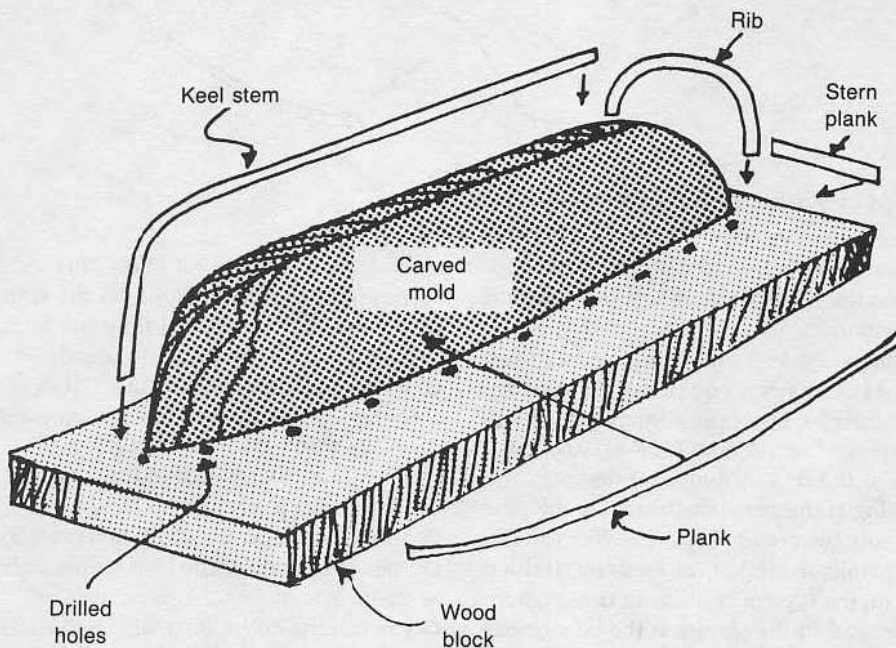

Fig. 11-21. Building a ship's boat over a form (Courtesy of Northshore Deadeyes, Ltd.).
To begin construction, see the overall details in FIG. 11-21. FIGURE 11-22 shows the placement and identification of the parts that are referenced in the instructions.
- ✱ Mount the form in an inverted position on a 1-x-6-x-4-inch pine board (FIG. 11-21). Glue at stern and transom. If the mold is for a double-ended boat, block to a level position (keel). (SEE FIG. 11-22, #1.) If your plans call for the construction of more than one boat, you might wish to elevate the form from the wood mounting board.